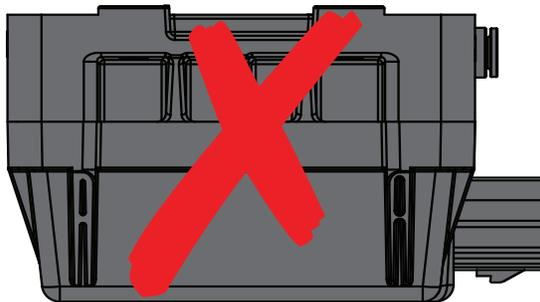
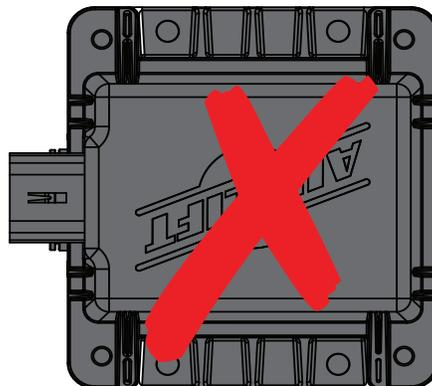

Fig. 3
Fig. 4
2. The manifold can be mounted in any orientation except with the logo facing the ground (Fig. 3) or with the logo upside down (Fig. 4).